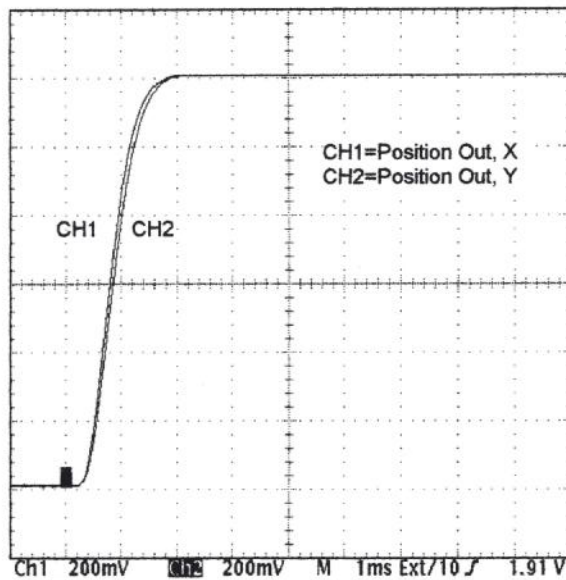

Figure 12.
5. Now monitor both channels' Position Out signals superimposed on one another on the oscilloscope. Increase the vertical gain and sweep speed on the oscilloscope until the speed difference between the two channels is noticeable. See Figures 12 and 13.